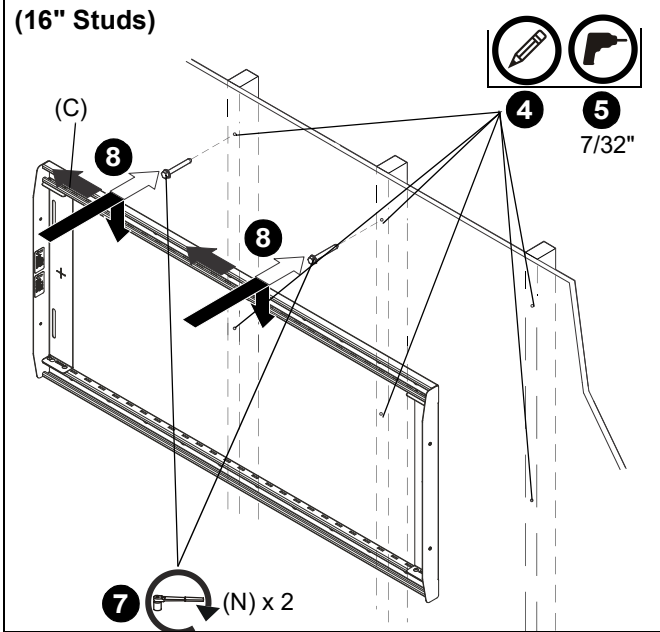
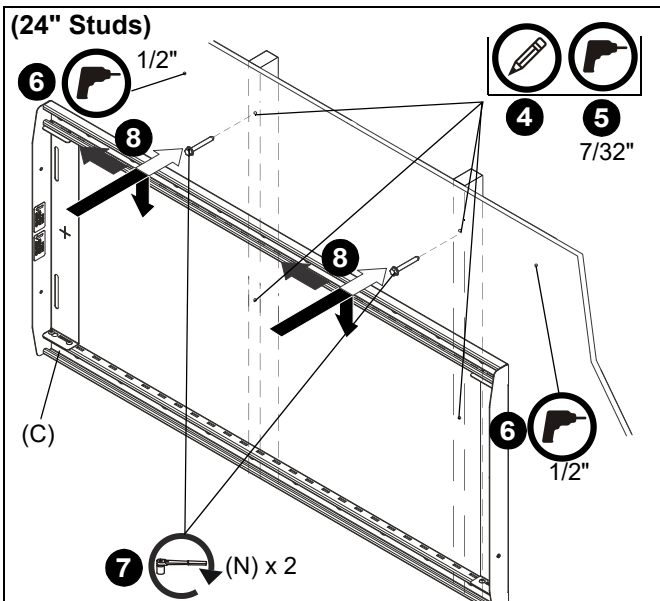
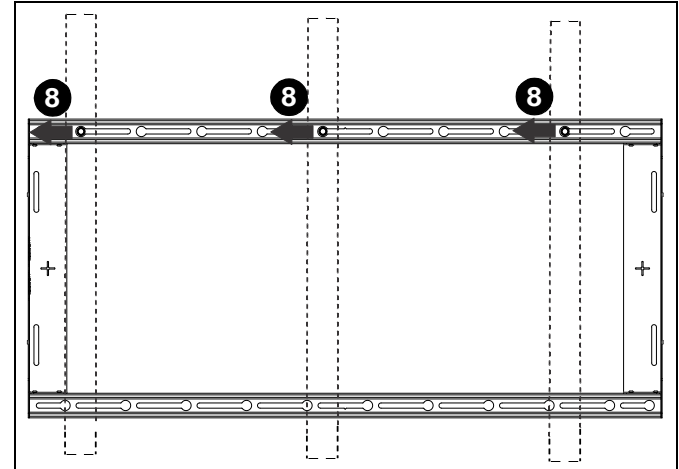

Figure 10
Figure 11
Figure 12
4. Using a level, mark the wall on each stud to attach the mount through the mounting slots. (See Figure 10) or (See Figure 11)
5. Drill four or six 7/32" (5.5mm) pilot holes (one in each stud) at the site of the upper and lower mounting holes. (See Figure 10) or (See Figure 11)
6. **(24" studs only)** Drill two 1/2" (12.7mm) pilot holes at outside locations marked for additional two holes. Install toggle anchors (L) into these holes following Steps 6-9 in **Installing to Steel Studs Section**. (See Figure 11)
7. Partially install two 5/16 x 2-1/2" flanged lag bolts (N) into upper pilot holes but do not tighten to wall. (See Figure 10) or (See Figure 11)
8. Hang rail assembly (C) and slide slightly to the left until bolts (N) are clear of keyhole slots and able to hold mount to wall. (See Figure 10) or (See Figure 11) and (See Figure 12)